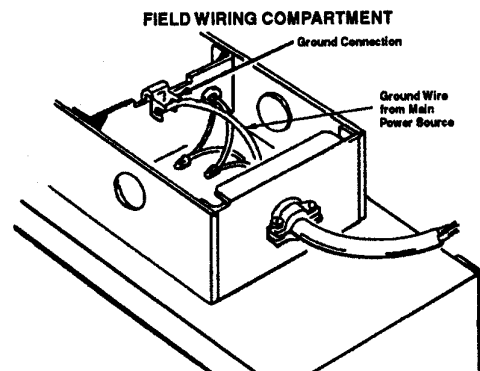

Figure 7
2. A field wiring compartment (with knock out holes) is located at the rear of the power pack assembly (Figure 7). The wiring should be directed from the integrated control panel of the furnace to the wiring compartment of the air cleaner.